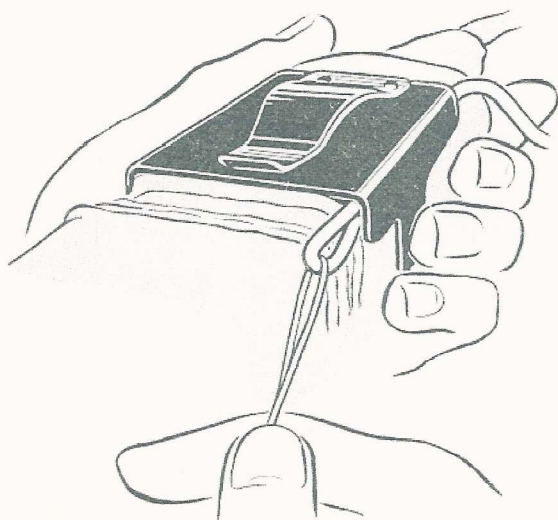

Fig. 4. Connecting the beacon to the battery switch pin: first stage
(2) Holding the beacon as shown in fig. 4, loop a length of suitable wire or cord through the length of cord on the beacon thread it between the clip and the beacon and pull it through.